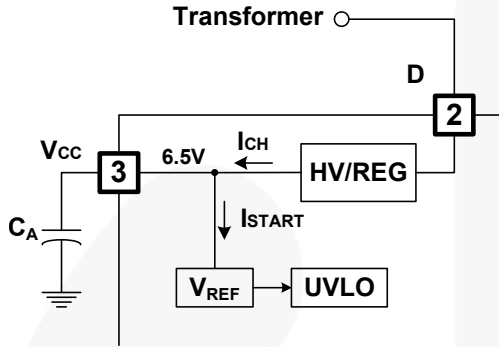
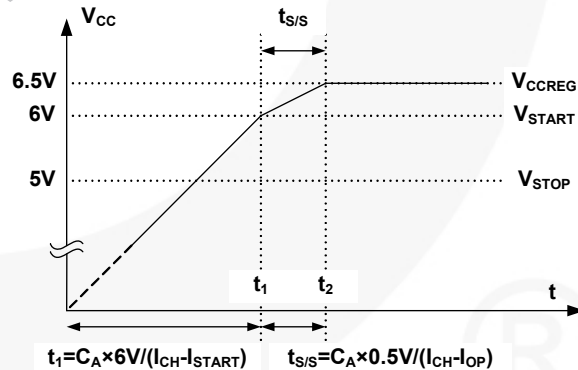

Figure 15. Startup Block
Figure 20. Soft-Start Function
1. Startup and V_{CC} Regulation: At startup, an internal high-voltage current source supplies the internal bias and charges the external capacitor (C_A) connected to the V_{CC} pin, as illustrated in Figure 15. An internal high-voltage regulator (HV/REG) located between the D and V_{CC} pins regulates the V_{CC} to be 6.5V and supplies operating current. Therefore, FSQ500L needs no auxiliary bias winding.
4. Soft-Start: The soft-start time is tuned by an external V_{CC} capacitor (C_A), which increases PWM comparator non-inverting input voltage together with the senseFET current slowly after it starts up. Before V_{CC} reaches V_{START} , C_A is charged by the current $I_{CH-I_{START}}$, where I_{CH} and I_{START} are described in Figure 15. After V_{CC} reaches V_{START} , all internal blocks are activated, so that the current consuming inside IC becomes I_{CP} . Therefore, C_A is charged by the current $I_{CH-I_{CP}}$, which makes the increasing slope of V_{CC} become sluggish. V_{CC} is shifted by 6.0V negatively (it is performed in soft-start block in Figure 2), and then $V_{CC} - 6.0\text{V}$ is an input of one of the input terminals of the PWM comparator. The drain current follows $V_{CC} - 6.0\text{V}$ instead of the V_{FB}^* because of the low-dominant feature of the PWM comparator. The soft-start time can be made long or short by selecting C_A , as described in Figure 20. During $t_{S/S}$, I_{DELAY} is disabled to avoid unwanted OLP. Typically, $t_{S/S}$ is around 4.6ms with $27\mu\text{F}$ of C_A .